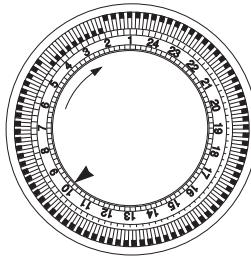

fig.5
- Check the time on your clock. If it is 10.00, turn the numbered programmer disk until the number 10 coincides with the pointer ▲ marked on the programmer (fig.5).